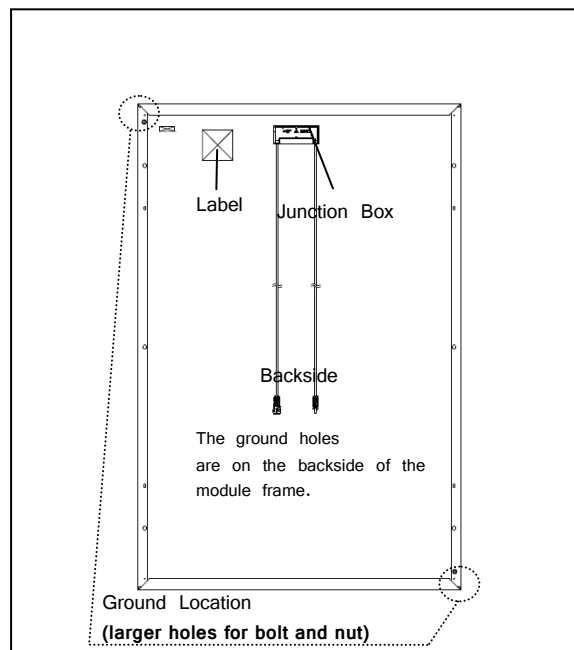

Figure 3.1
- Each ledge on the module frame has two larger holes for bolts (0.205" diameter (5.2 mm)). These ground holes are marked with a "G" or "ground mark" adjacent to their location on the frame rail (see Figure 3.1).
Method- Use a bolt and nut (see Figures 3.1 and 3.2)